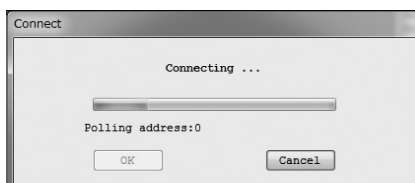

Fig.9
- ⑦ As you click "OK" and start the connection process, a message box like the one in Fig. 9 appears. A bar graph in the middle of message box indicates progress of connection process.